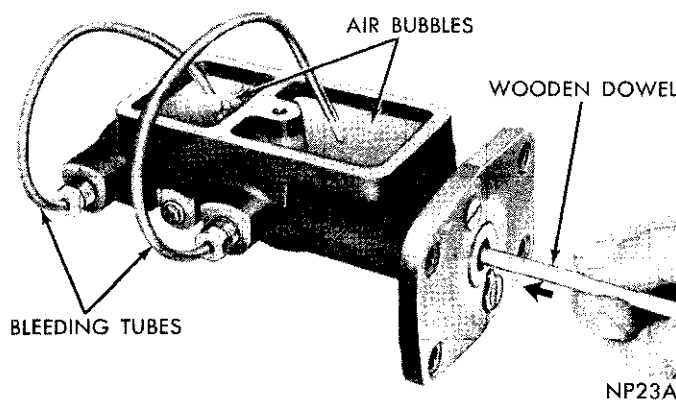

Fig. 7—Bleeding Master Cylinder
(1) Clamp master cylinder in a vise and attach bleeding tubes Tool C-4029 (Fig. 7).
(2) Fill both reservoirs with approved brake fluid.
(3) Using a wooden stick or dowel (power brake equipped vehicles) depress push rod slowly and allow the pistons to return under pressure of springs. Do this several times until all air bubbles are expelled. (Fig. 7).